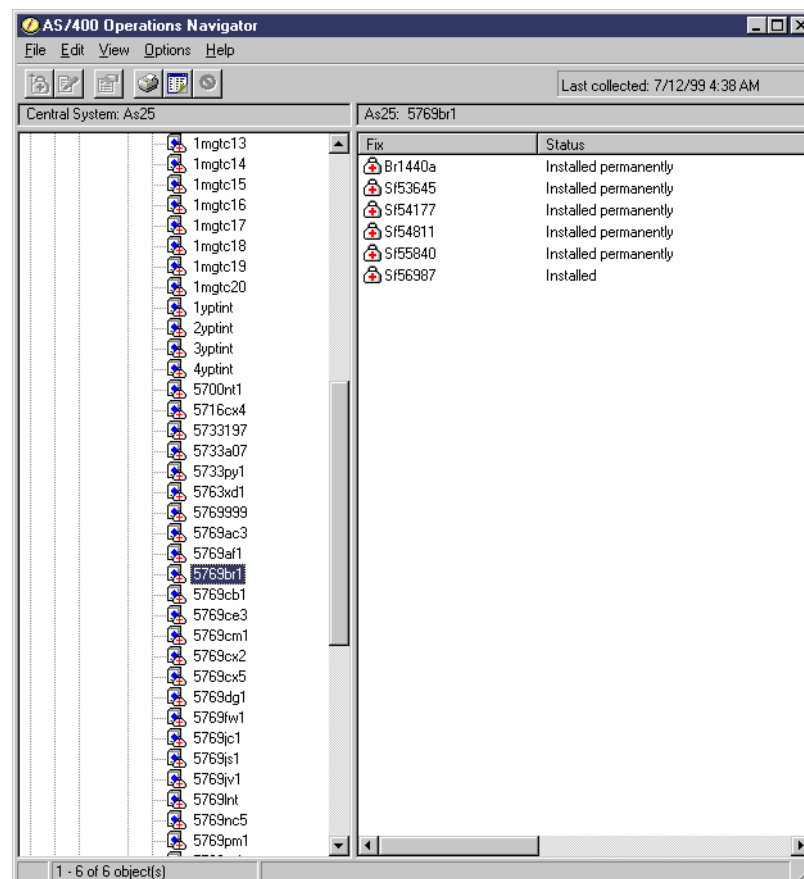

Figure 72. Fixes inventory list
2. Expand **Configuration and Service**. Either select **Fixes Inventory** to view the list in the right panel, or click the “+” sign to view the list in the left panel. The list shows the installed or supported program products on the system. Once you select the product, it shows you the fixes in the right panel. Double click on the product or right-click and use **Open** or **Explore** to view the fixes for that product. Using Open displays the results in a new window as shown in Figure 72.